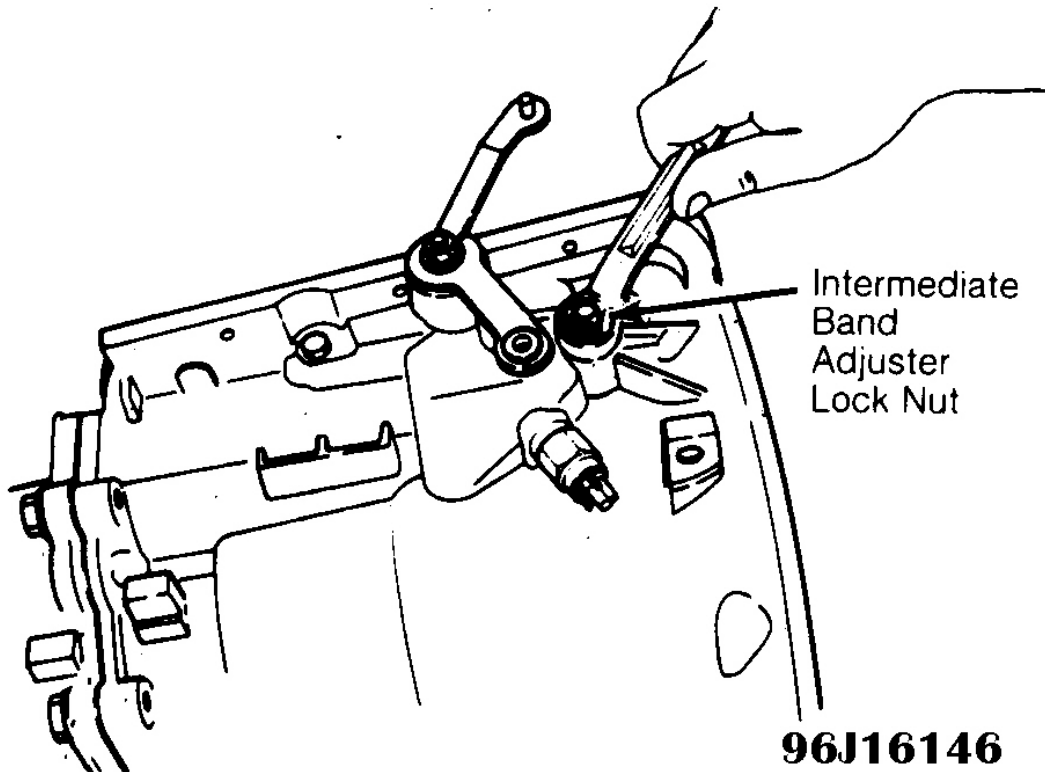

Fig. 15: Intermediate Band Adjuster Lock Nut Location
1. Loosen intermediate band adjuster screw lock nut. See **Fig. 15** . Back out intermediate band adjuster screw. From inside transmission case, remove intermediate band and struts. Remove reverse-high clutch, forward clutch, No. 3 thrust washer, front internal gear/planetary assembly and drive shell/sun gear assembly.